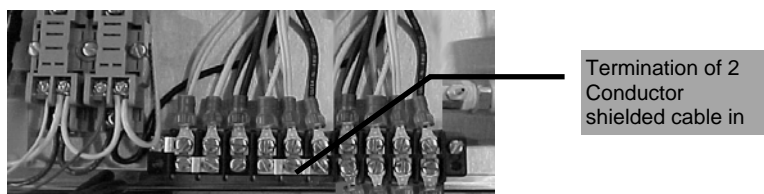
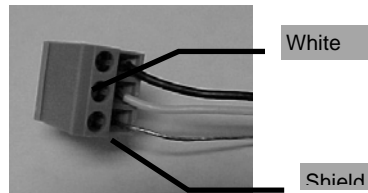

Figure 14
Figure 15
3. The two cables coming from the meter door will terminate on the terminal strip located inside the meter box. (See Fig. 14 and Fig. 15)